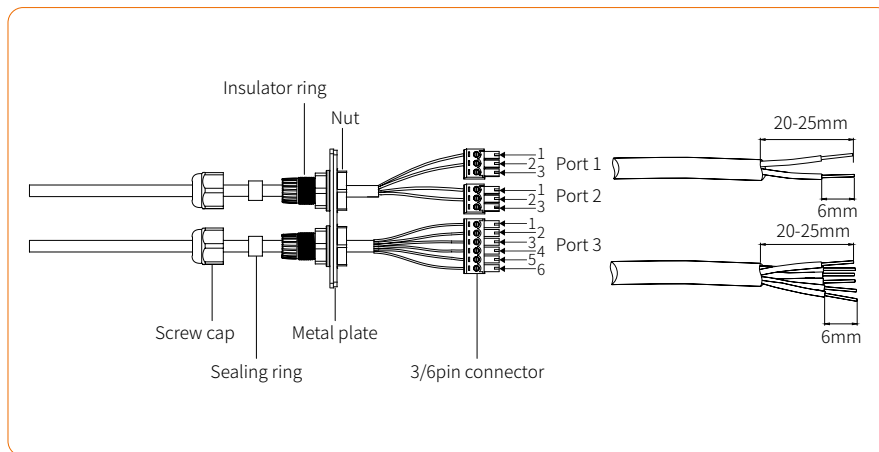

Figure 4-24
- ① Remove the COM2 plate in the bottom of the inverter with a cross screwdriver.
- ② Put the cable through the connector and connect to the terminal in the following order: screw cap, sealing ring, insulator, metal plate, nut and 3/6pin connector, as shown in Figure 4-24: